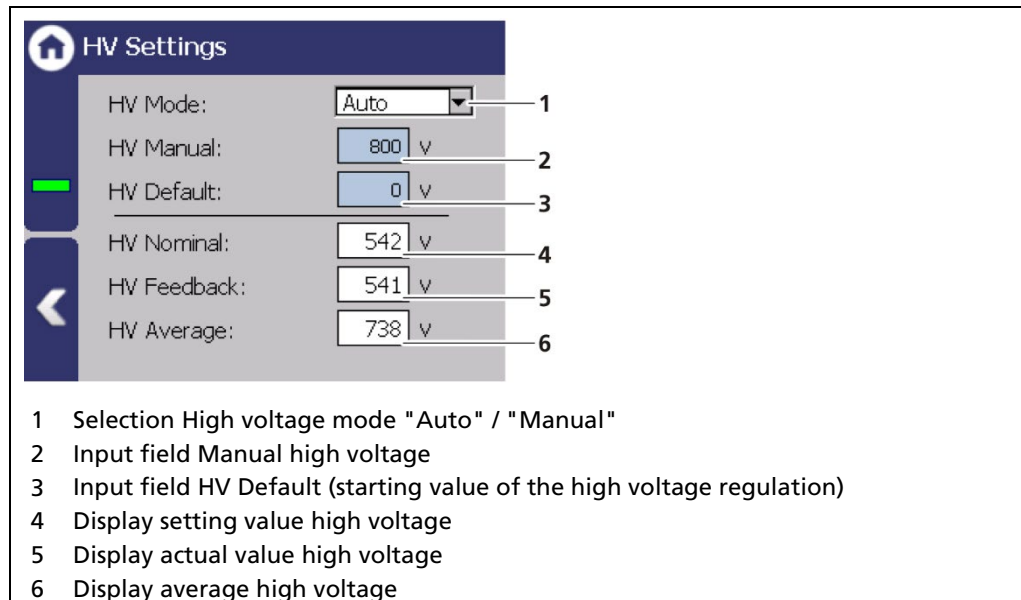

Fig. 66 HV Settings
1. Click on the selection arrow (Fig. 66, item 1) in order to set the desired HV mode (auto or manual).
- ▶ MANUAL: The high voltage is maintained at a fixed, user-entered value (Fig. 66, item 2).
2. Click in the input field "HV Default" (Fig. 66, item 3) to open the input field.